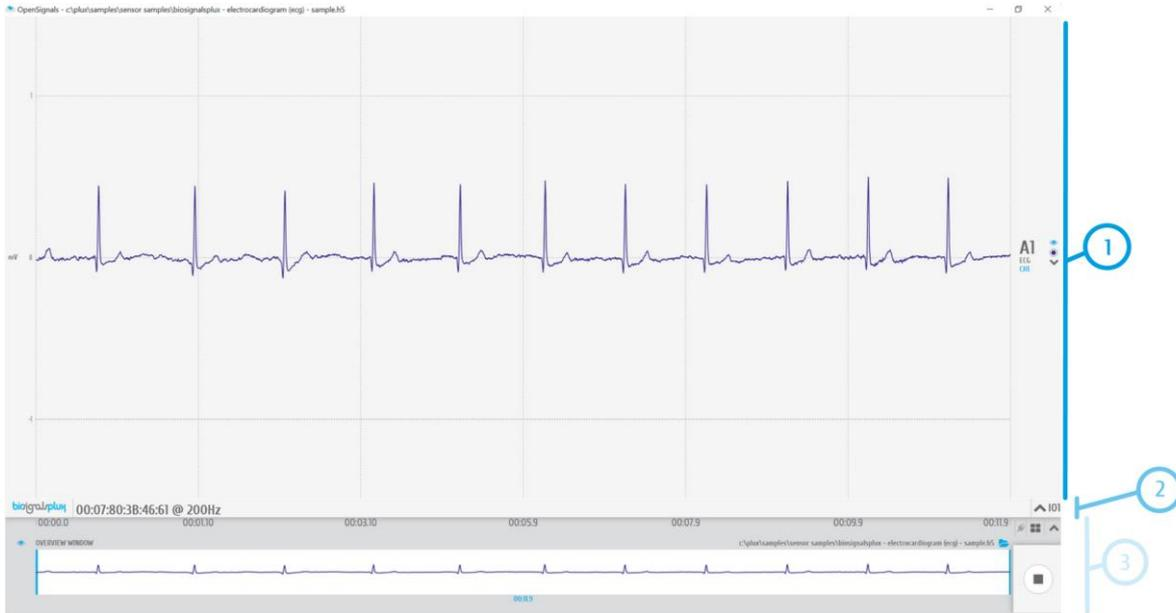

Figure 109: Sections of the visualization mode.
- Signal visualization (1 in Figure 109; see section 3.2.2 *Signal Visualization*)
- Information bar (2 in Figure 109; see section 3.2.3 *Information Bar*)
- Control bar (3 in Figure 109; see section 3.2.4 *Control Bar*)